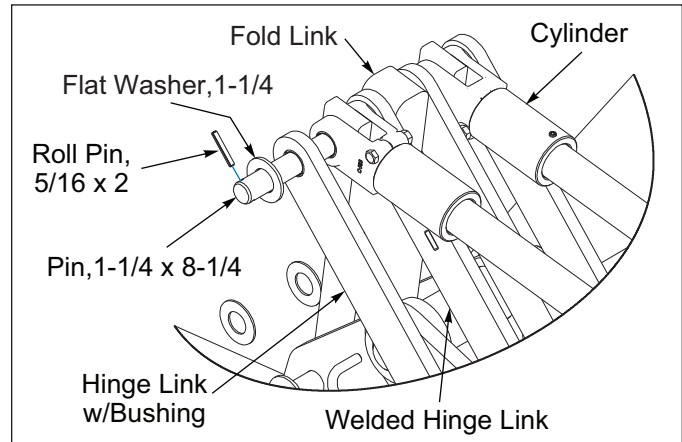

Figure 2-53: Center Frame and Wing Link Assembly
4. Swing the Center Frame and Wing Hinge Links together along with the Hydraulic Cylinder Rod End Clevis. Insert 1-1/4 x 8-1/4 Pin through them. See Figure 2-53. Add 1-1/4 Flat Washers on each end of the Pin. Secure with 5/16 x 2 Roll Pin.